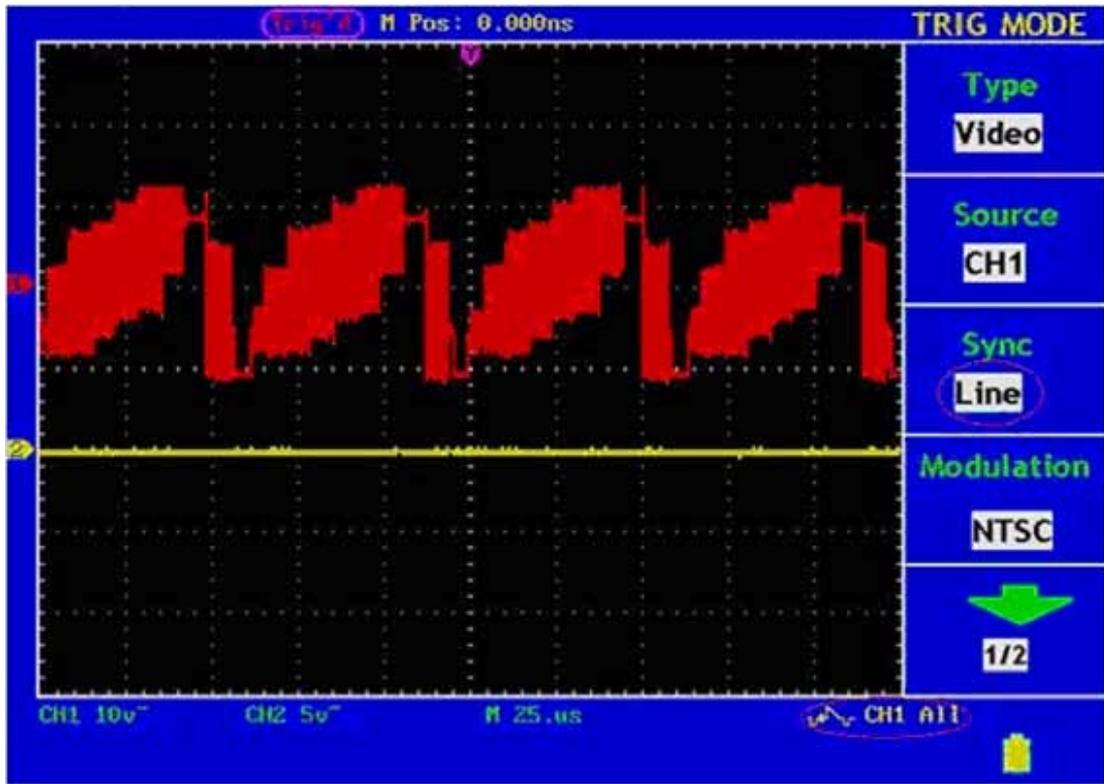

Fig. 32 Wave Form Triggered in the Video Line
5. Press the **F3** menu selection button and choose **Line** for Slope. The screen display is shown as Fig. 32.